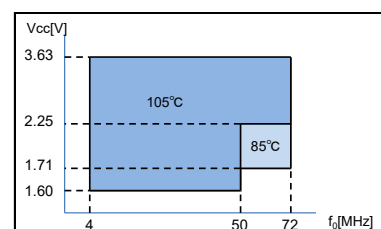

Figure 1 : The upper limit of Operating temperature and the related conditions
①Model ②Output(C: CMOS) ③Frequency ④Supply voltage
⑤Frequency tolerance ⑥Operating temperature range
⑦Internal identification code("A" is default)
④Supply voltage *See Figure 1
①Model ②Function(S: Standby) ③Supply voltage
④Frequency ⑤Frequency tolerance
③Supply voltage *See Figure 1